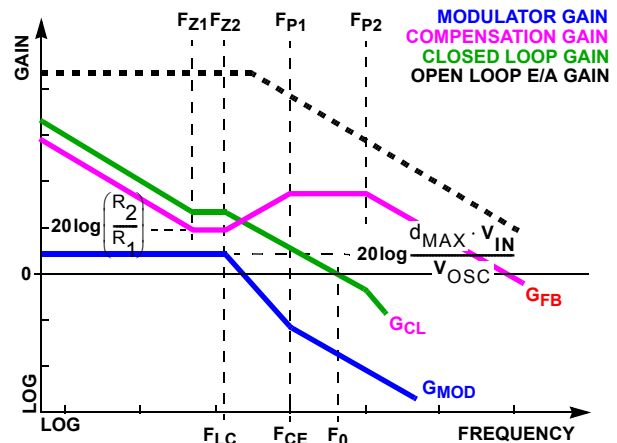

FIGURE 14. ASYMPTOTIC BODE PLOT OF CONVERTER GAIN
Figure 14 shows an asymptotic plot of the DC/DC converter's gain vs frequency. The actual Modulator Gain has a high gain peak dependent on the quality factor (Q) of the output filter, which is not shown. Using the previous guidelines should yield a compensation gain similar to the curve plotted. The open loop error amplifier gain bounds the compensation gain. Check the compensation gain at  $F_{P2}$  against the capabilities of the error amplifier. The closed loop gain,  $G_{CL}$ , is constructed on the log-log graph of Figure 14 by adding the modulator gain,  $G_{MOD}$  (in dB), to the feedback compensation gain,  $G_{FB}$  (in dB). This is equivalent to multiplying the modulator transfer function and the compensation transfer function and then plotting the resulting gain.